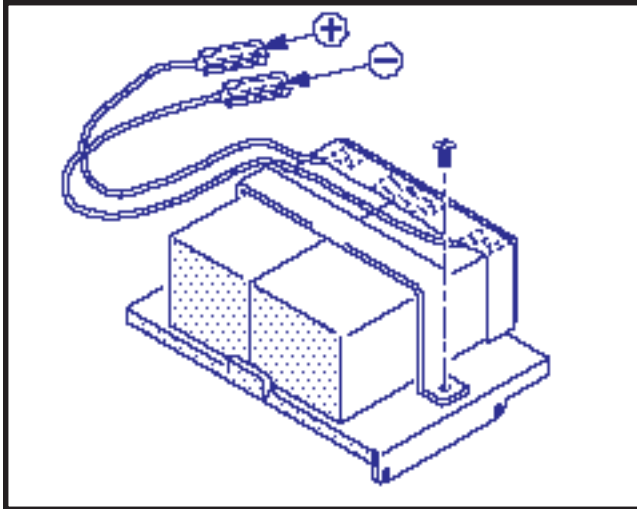

FIGURE 4-4—PEAK LOAD BATTERY
- 16) Install the peak load battery as shown in Figure 4-4. Secure the battery to the mounting bracket with the retaining strap and a single screw.
- 17) Connect the peak load battery cables to TB2 on the rear of the basic power supply (see Figure 4-4). Ensure that the correct polarity is observed as follows: